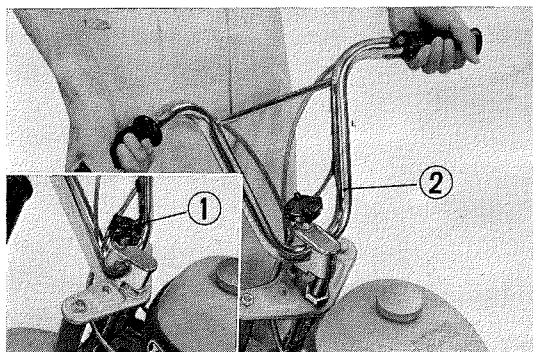

Fig. 62 Steering handlebar
4. Unscrew the handle post knob and then remove the steering handlebar. (Fig. 62)